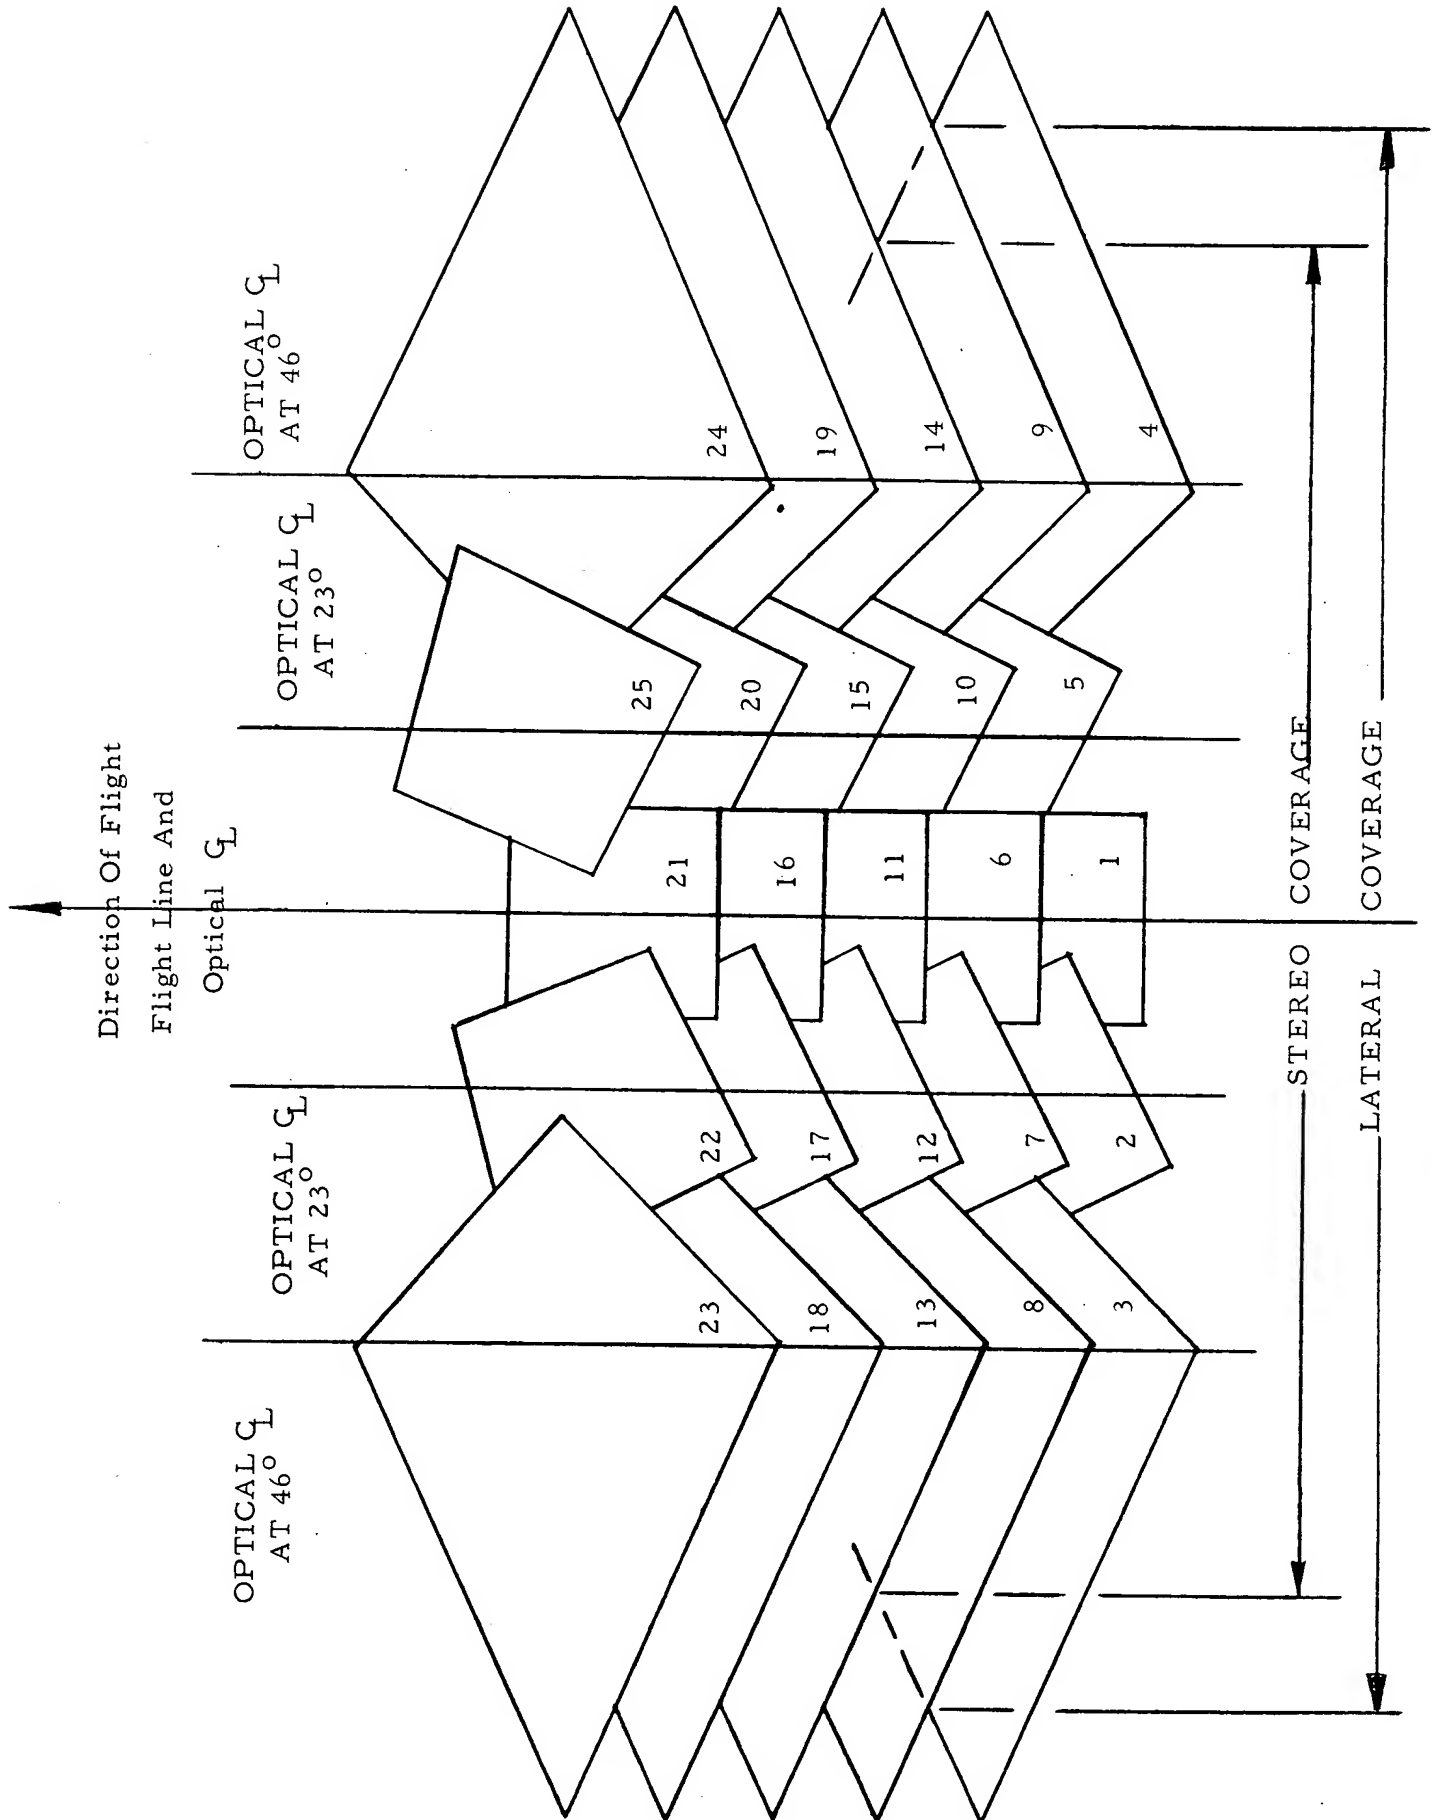

Figure 3-1. Ground Coverage Format, Straight and Level Flight, Type III
- 3-3. Photographic coverage of the camera system is represented in Figure 3-1. There are two distinct modes of operation with the Type III package. Mode 1 sweeps continuously through the five basic positions while mode 2 photographs continuously at the same rate, however, in a vertical position only. Mode 1 covers approximately 60° each side of nadir. Mode 2 covers 14° each side of nadir. Each mission can provide 2850 nautical miles flight line coverage on 3900 frames and 51 to 55 nautical miles (or approximately 120°) of total transverse coverage. The scan overlap provides stereo viewing approximately 53° each side of nadir or an approximate total of 106° . See Figure 3-1.
- 3-19. Results of the Type III camera are sets of photographs in the format shown in Figure 3-1. Each frame contains recorded data and identification of frame position, i. e., one through five. Approximately 3900 photographs with recorded data can be expected from a full film supply of 6000 feet. Individual frame size is 18 inches by 18 inches.